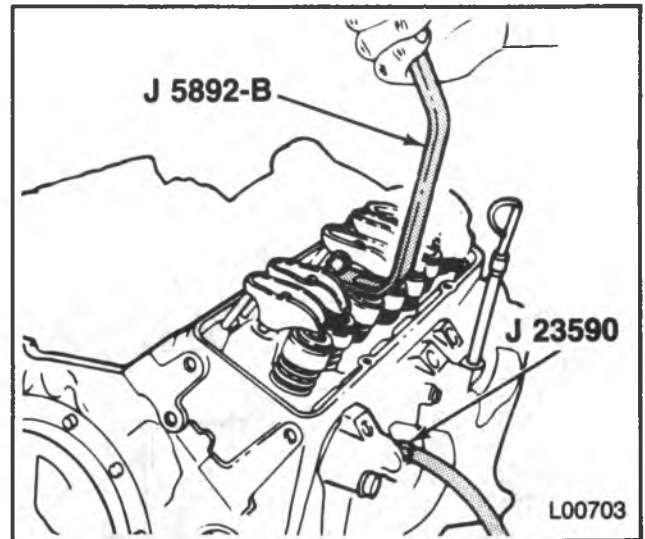

Figure 6 — Compressing the Valve Springs
4. Valve keepers (20).
- Install a rocker arm nut (figure 6).
- Use J 5892-B to compress the valve spring (figure 6).
5. Cap (21) and/or rotator (28), shield (22) and spring (26) with damper (25).
6. O-ring seal (23), and seal (24) (intake valve only).
1. New seal (24) (intake valve only). Install the seal over the intake valve stem and seat it against the head.
2. Spring (26) with damper (25), shield (22) and cap (21) and/or rotator (28).
3. New O-ring seal (23) and valve keepers (20).
- With air pressure applied to the cylinder with J 23590, compress the spring with J 5892-B (figure 6).